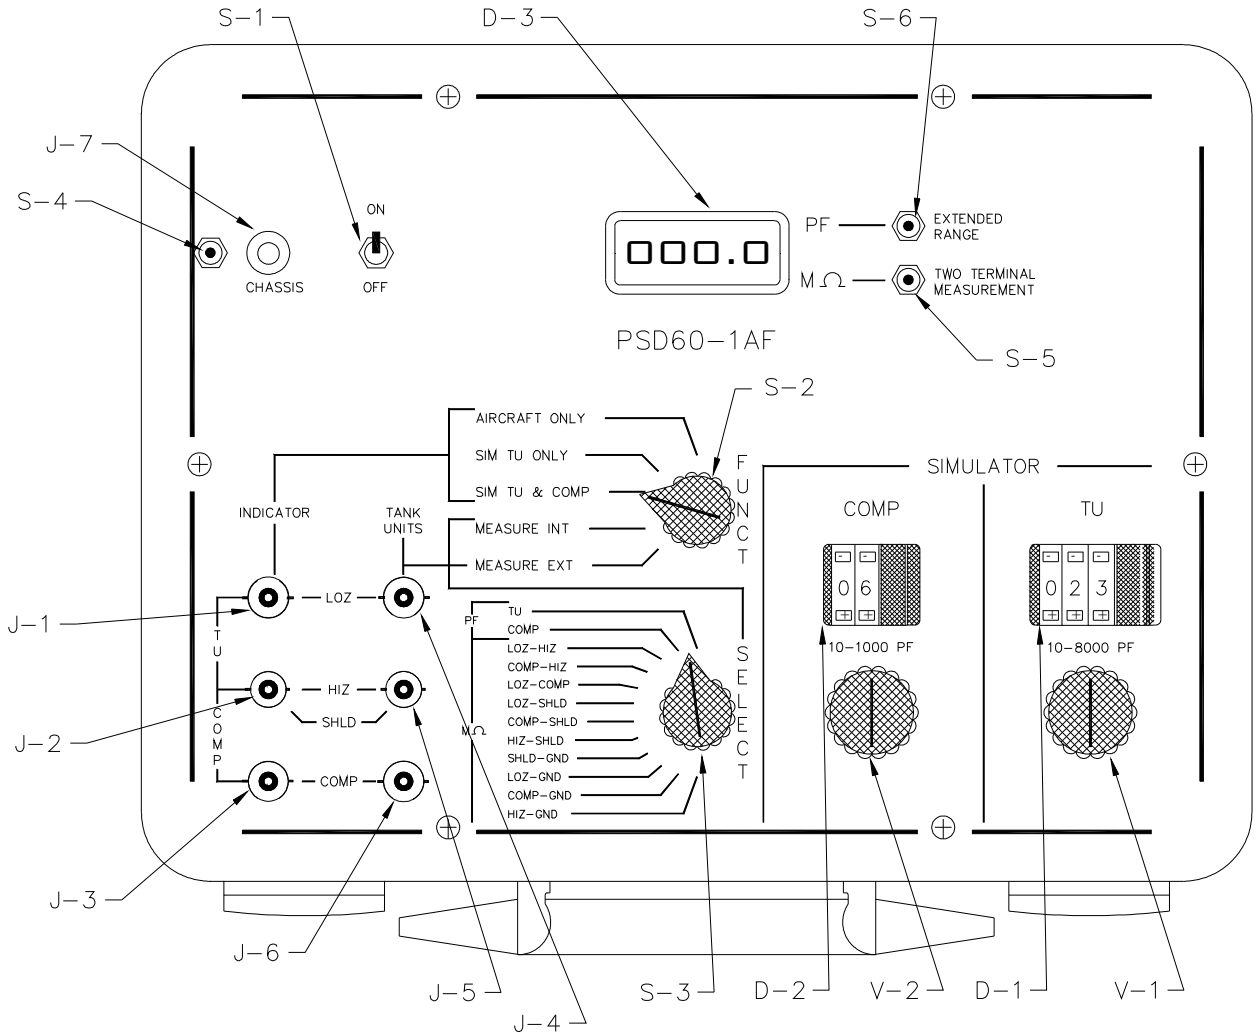

FIGURE 1-1
G. Front panel: Refer to Figure 1-1 for component identification. Refer to Table 1-1 for description of each component’s function.